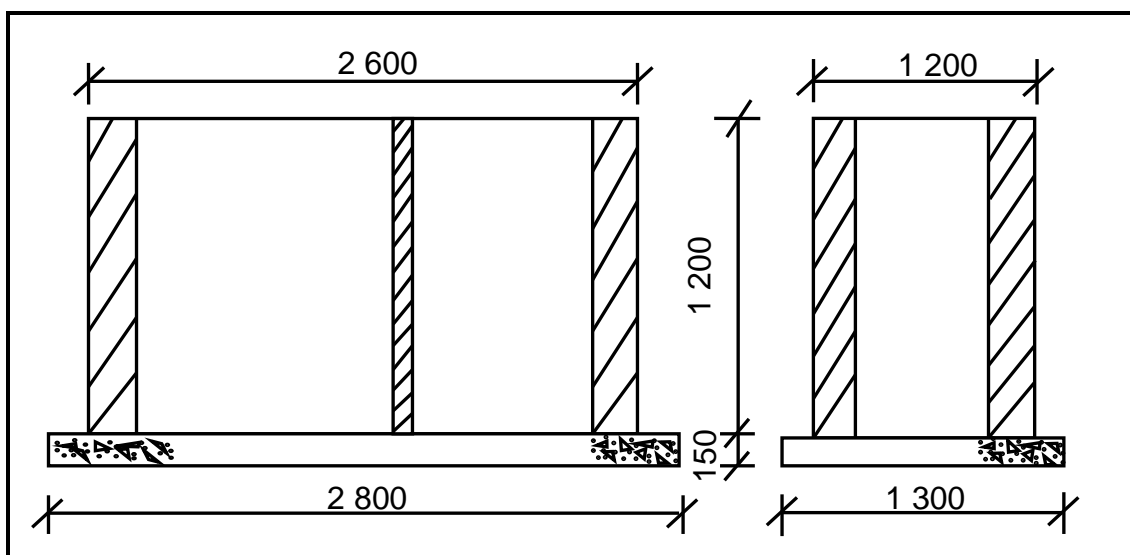

FIGURE 3.6
- 3.6 FIGURE 3.6 below is a drawing of the incomplete sectional view through the bricks and concrete floor of a septic tank. Use ANSWER SHEET 3.6 and answer the questions that follow. Round off your answer to TWO decimal places.